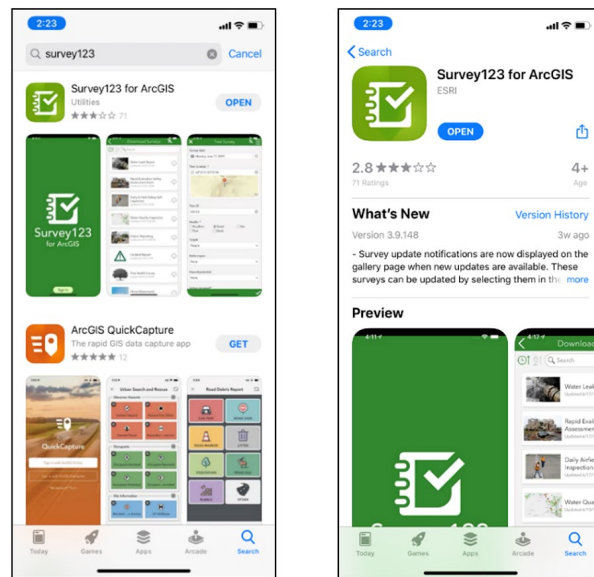
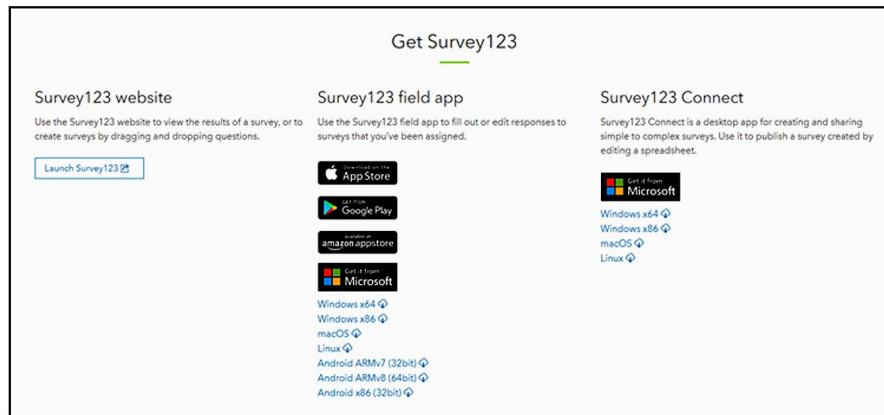

Figure 1. Download Survey123 App via Store on phone or by downloading Survey123 desktop app.
Figure 2. Online access to Survey123 website, field App, and Connect desktop program.
- **Download the Survey123 App or access the online application** - Users can download the free App for phones and tablets at iTunes or Google Play (**Figure 1**) or <https://www.esri.com/en-us/arcgis/products/survey123/resources> (**Figure 2**).